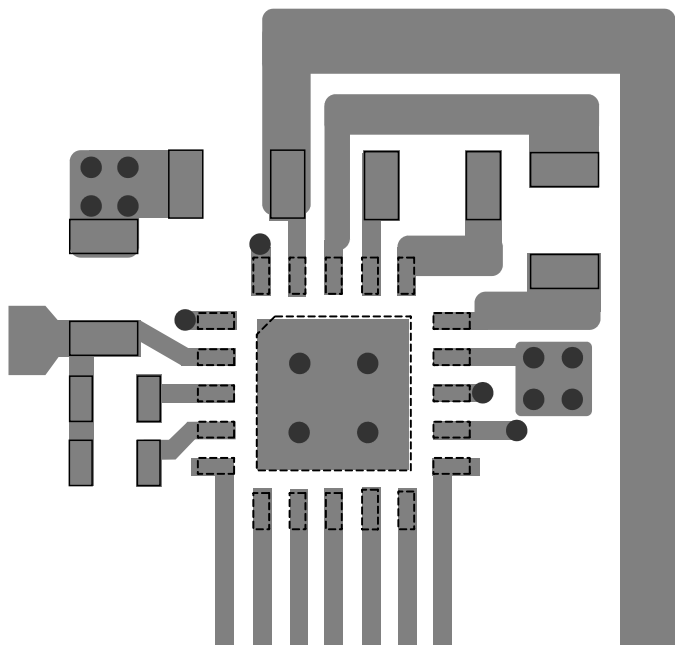

Figure 3 — Layer 1
- Figure 3 shows the pads on layer 1 that should be connected with vias to layer 2. $C_{IN'}$, C_{OUT} and the GND pin all use vias to connect to the ground plane.